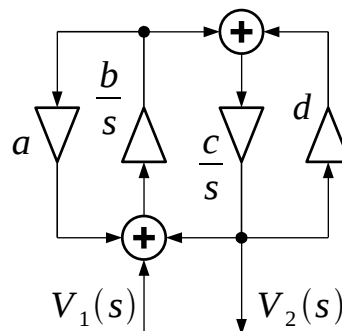

Figure 5.1: Second-order leapfrog approach...
using the leapfrog approach (see Figure 5.1 for an outline and suggested starting point for your work). All the three parameters  $K$ ,  $\omega_0$ , and  $Q$ , are positive numbers. We can set the DC gain of the filter to unity and the cut-off frequency to be 10 MHz. We can set the quality factor to  $1/\sqrt{2}$ .
- 1) Realize the filter using active RC components! Use a minimum number of single-ended operational amplifiers. Use Figure 5.1 as a guidance.
So - first of all - this could have been a straight-forward plug-in-the-numbers exercise. But ... Well, let's start by looking at the " (see **Figure 5.1 for an outline and suggested starting point for your work**) "If I were you I should have reacted here and understood that there was something behind this... Anyway, look at the tips: